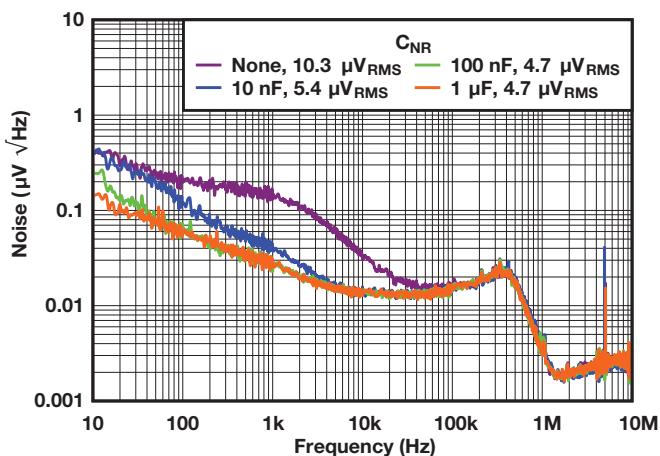

Figure 4: Noise spectral density of the TPS7A91 vs. frequency and $C_{NR/SS}$.
Adding a capacitor at this pin ($C_{NR/SS}$) forms a resistor-capacitor (RC) filter with internal resistance, helping shunt undesirable noise generated by the voltage reference. Since the voltage reference is the main contributor to noise, increasing the capacitance helps push the cutoff frequency of the low-pass filter leftward. **Figure 4** shows the effect of this capacitor on output noise.
As **Figure 4** shows, a greater value of $C_{NR/SS}$ yields better noise figures. At a certain point, however, increasing the capacitance will no longer reduce noise. The remaining noise emanates from the error amplifier, FET, etc.